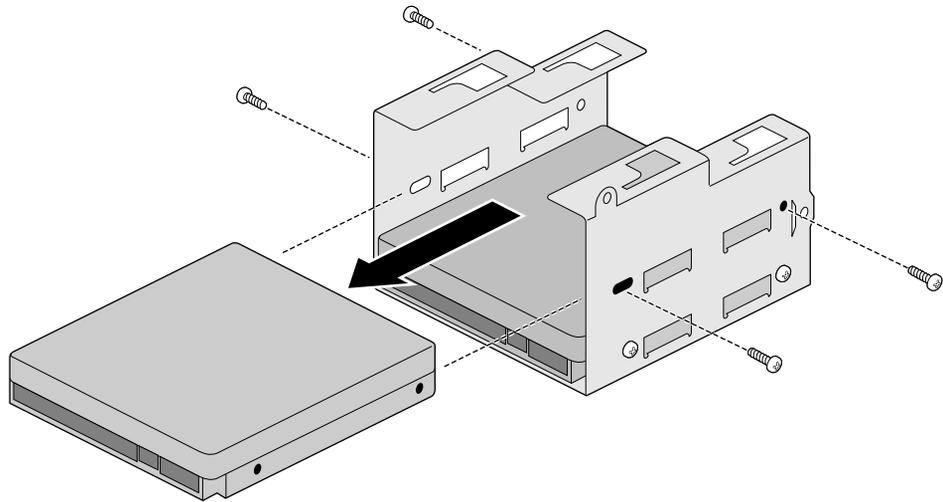

Figure 4-17 Removing a Hard Drive from the Drive Bracket
6. Remove the four screws holding the drive to the bracket and pull out the drive, as shown in Figure 4-17.